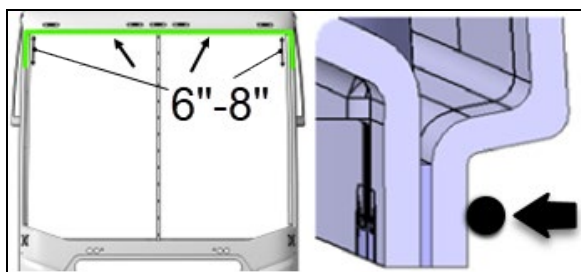

FIGURE 57: BEAD OF BLACK SIMSON 70-03 SEALANT
4. Apply a 1/8" (3 mm) bead of black Simson 70-03 sealant on the fiber panel as shown (Figure 57).